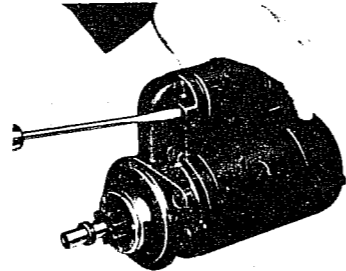

Fig. L.17. Removing the solenoid retaining screws.
2. The solenoid can now be pulled away from the bracket on the motor and its pull rod can be unhooked from the operating lever. (Fig. L 17).